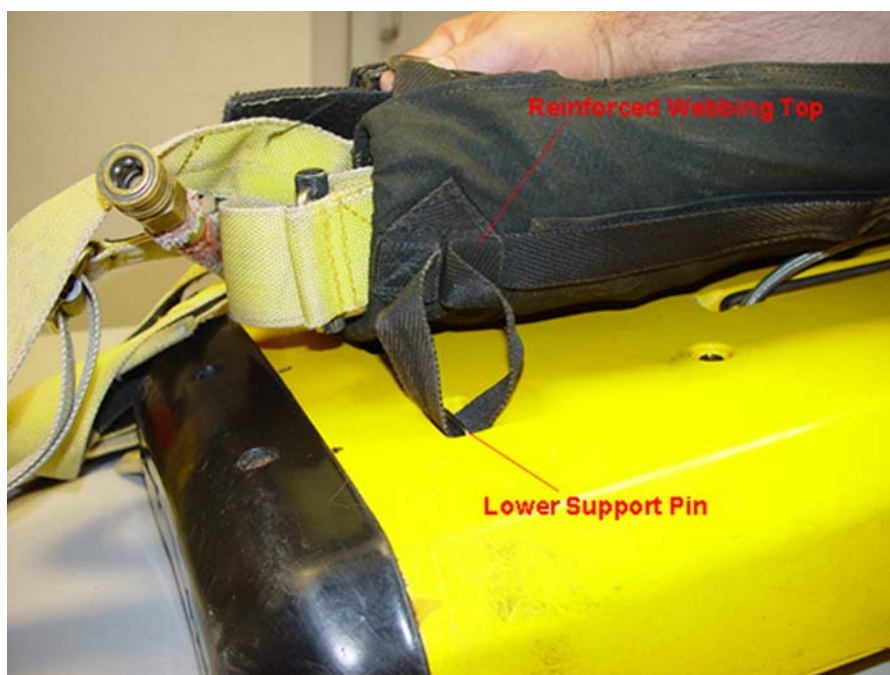

Fig 4.16
1. Pass the webbing strap under the backpack lower support pin and through the reinforced webbing loop as per Fig 4.16.